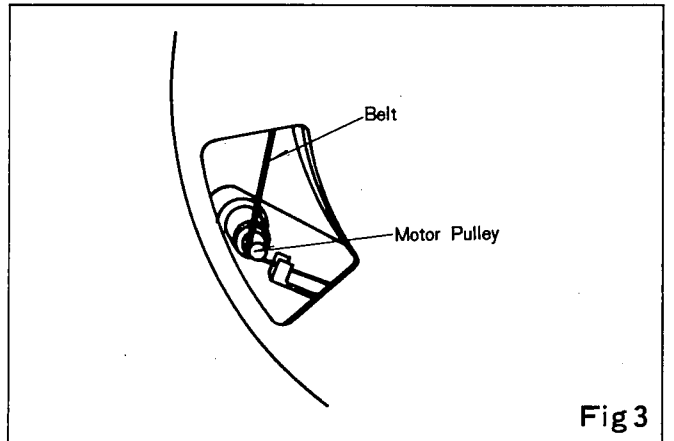

Fig 3
- b. Attach the turntable to the turntable shaft. Then hold the belt and put it on the motor pulley. Make sure not to twist the belt. (Fig. 3)